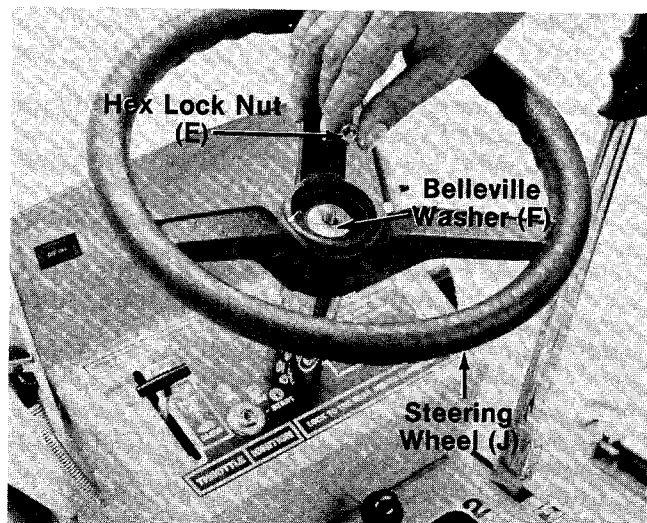

FIGURE 3.
- ← 2. Place the steering wheel (J) over steering shaft and steering tube. See figure 3.
3. Secure steering wheel with belleville washer (F) (cup side down) and hex lock nut (E). See figure 3. A 1/2" wrench is required.